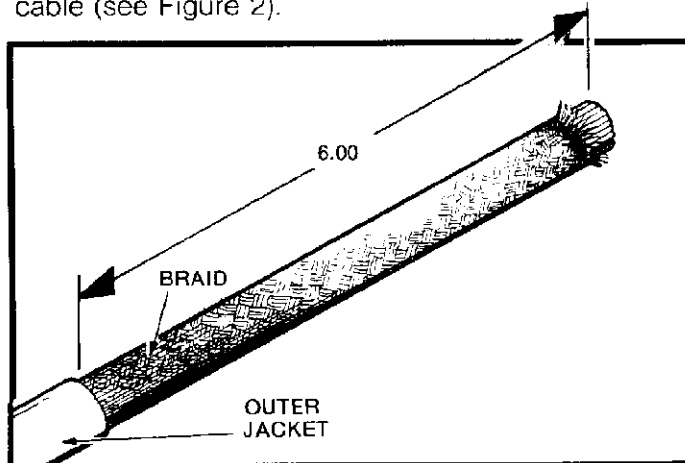

Fig. 2
Strip the outer cable jacket 6 in. from the end of the cable (see Figure 2).
1. Strip outer cable jacket 6 in. from the end of the cable (see Figure 2).